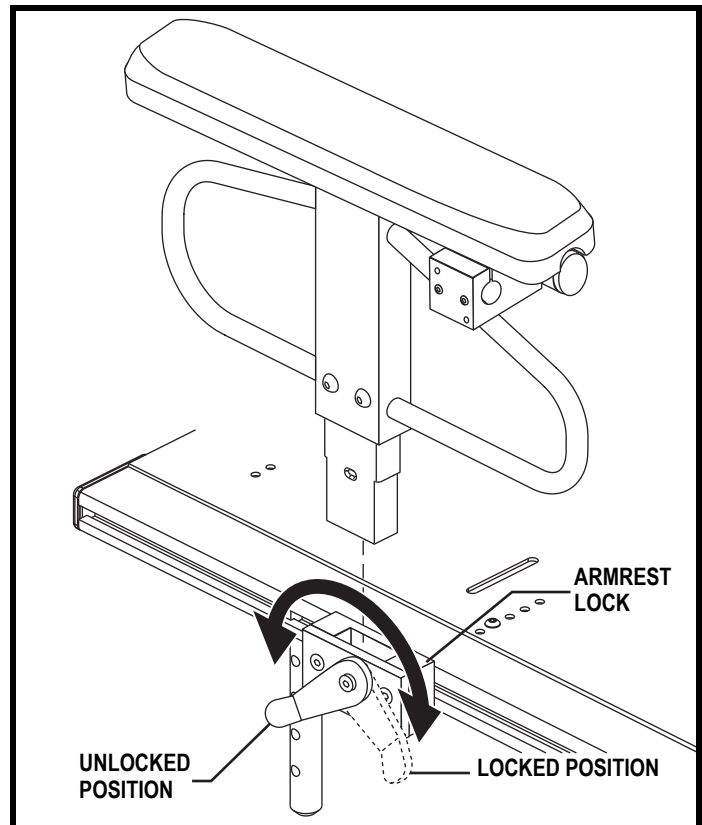

Figure 11. Armrest Removal
6. Install the armrests (if necessary). **See figure 11.**
1. Rotate the armrest lock lever rearward. See **figure 11**.
1. Place the armrest assembly into the armrest lock. See **figure 11**.